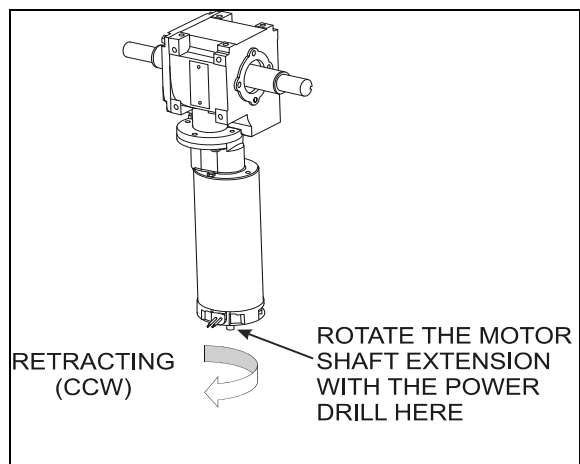

FIGURE 92 : SLIDE-OUT MOTOR ROTATION
5. Rotate the slide-out motor shaft extension with the power drill until the slide-out comes to its closed position (FIGURE 92).